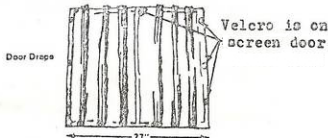

Figure 13
- 14 Cut and sew together door draps to measure 27 inches wide. (See Figure 13). Install ~~with the~~ velcro. Remove draps when door is in use.